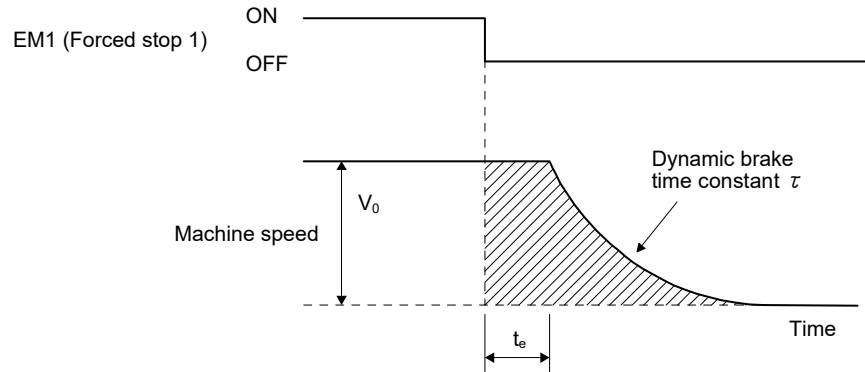

Fig. 10.3 Dynamic brake operation diagram
Fig. 10.3 shows the pattern in which the servo motor comes to a stop when the dynamic brake is operated. Use equation 10.2 to calculate an approximate coasting distance to a stop. The dynamic brake time constant  $\tau$  varies with the servo motor and machine operation speeds. (Refer to (2) (a), (b) in this section.)